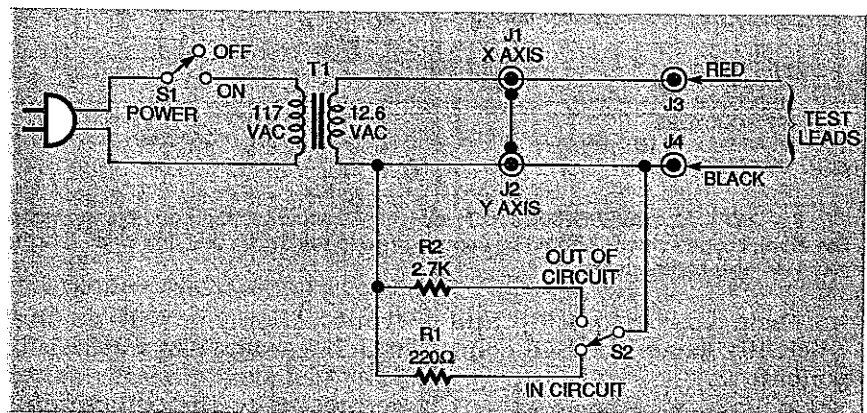
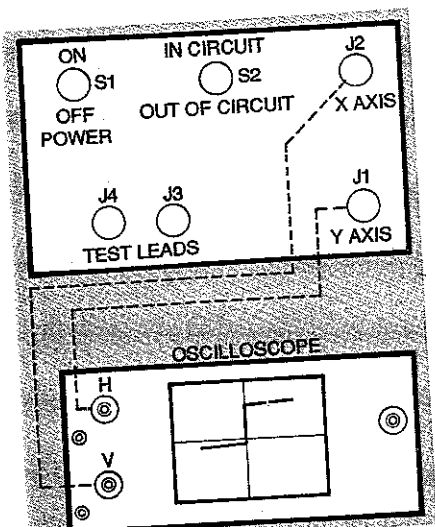

FIG. 1 — FULL SCHEMATIC OF THE instrument. When you use it to check components it creates a specific signature waveform on your scope.
FIG. 2 — HOW TO CONNECT THE TESTER to your scope.
The circuit is shown in Figure 1.
troubleshooting will be that much easier. Anyway, build your test box as shown, then connect it to the components you wish to test as shown in Fig. 2. The polarity of the leads will
This test box allows you to place an AC voltage across the DUT (Device Under Test) and measure the voltage across it and the current through it simultaneously. As you can see from the circuit diagram in Fig. 1, the black test lead can be considered to be the ground lead, and the red can be considered to be the positive or active test lead. Connect your oscilloscope as shown in Figure 2. For this explanation, let's assume that the DUT is a Zener diode with a reverse voltage rating of 6.3 volts. If this diode is hooked up as shown in Fig. 2, you can see that as the voltage becomes more positive on the red lead, the diode will allow the voltage to rise and there will be no current flow. This will cause the scope vertical input (Y) to rise and it will go straight up, because there is no current flow.